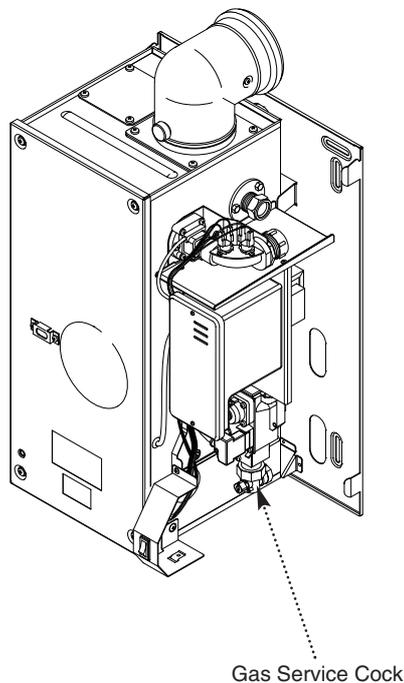

Fig. 15
2. The connection to the appliance is a  $\frac{1}{2}$ in BSPT internal threaded connection located at the rear of the gas service cock (Fig. 15).